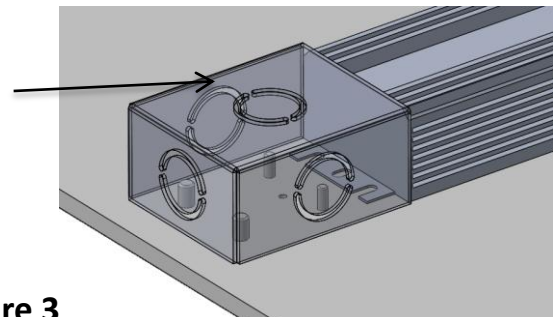

Figure 3
- C. Use strain-relief on inside of junction box when making field wiring connections (Figure 3).